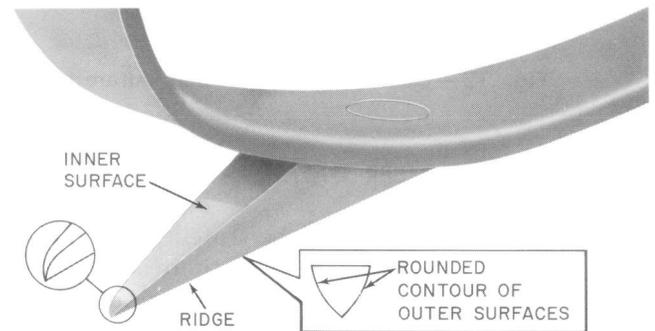

Fig. 10—Gaff Profile and Point
5.05 Figure 10 illustrates the surfaces, ridge, and point of a properly shaped gaff. **The ridge of the gaff is straight.** Note that the point of the gaff is rounded to meet the ridge.